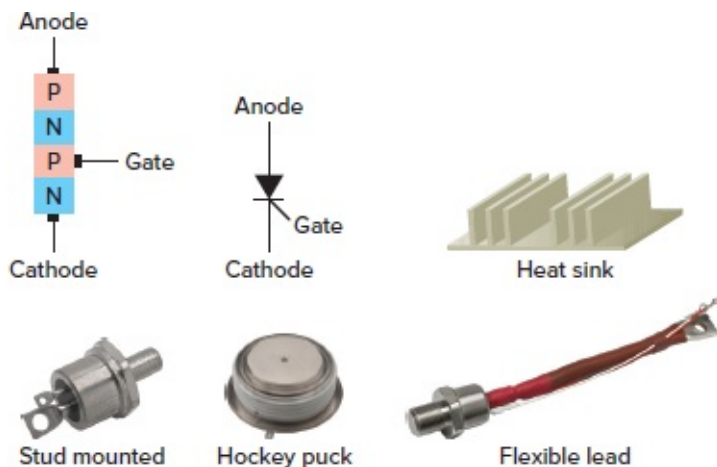

Figure 9-31 Silicon-controlled rectifier (SCR).
Silicon-controlled rectifiers (SCRs) are similar to silicon diodes except for a third terminal, or gate, which controls, or turns on, the SCR. Basically the **SCR** is a four-layer (PNPN) semiconductor device composed of an anode (A), cathode (K), and gate (G), as shown in Figure 9-31. Common SCR case styles include stud-mounted, hockey puck, and flexible lead. SCRs function as switches to turn on or off small or large amounts of power. High-current SCRs that can handle load currents in the thousands of amperes have provisions for some type of heat sink to dissipate the heat generated by the device.